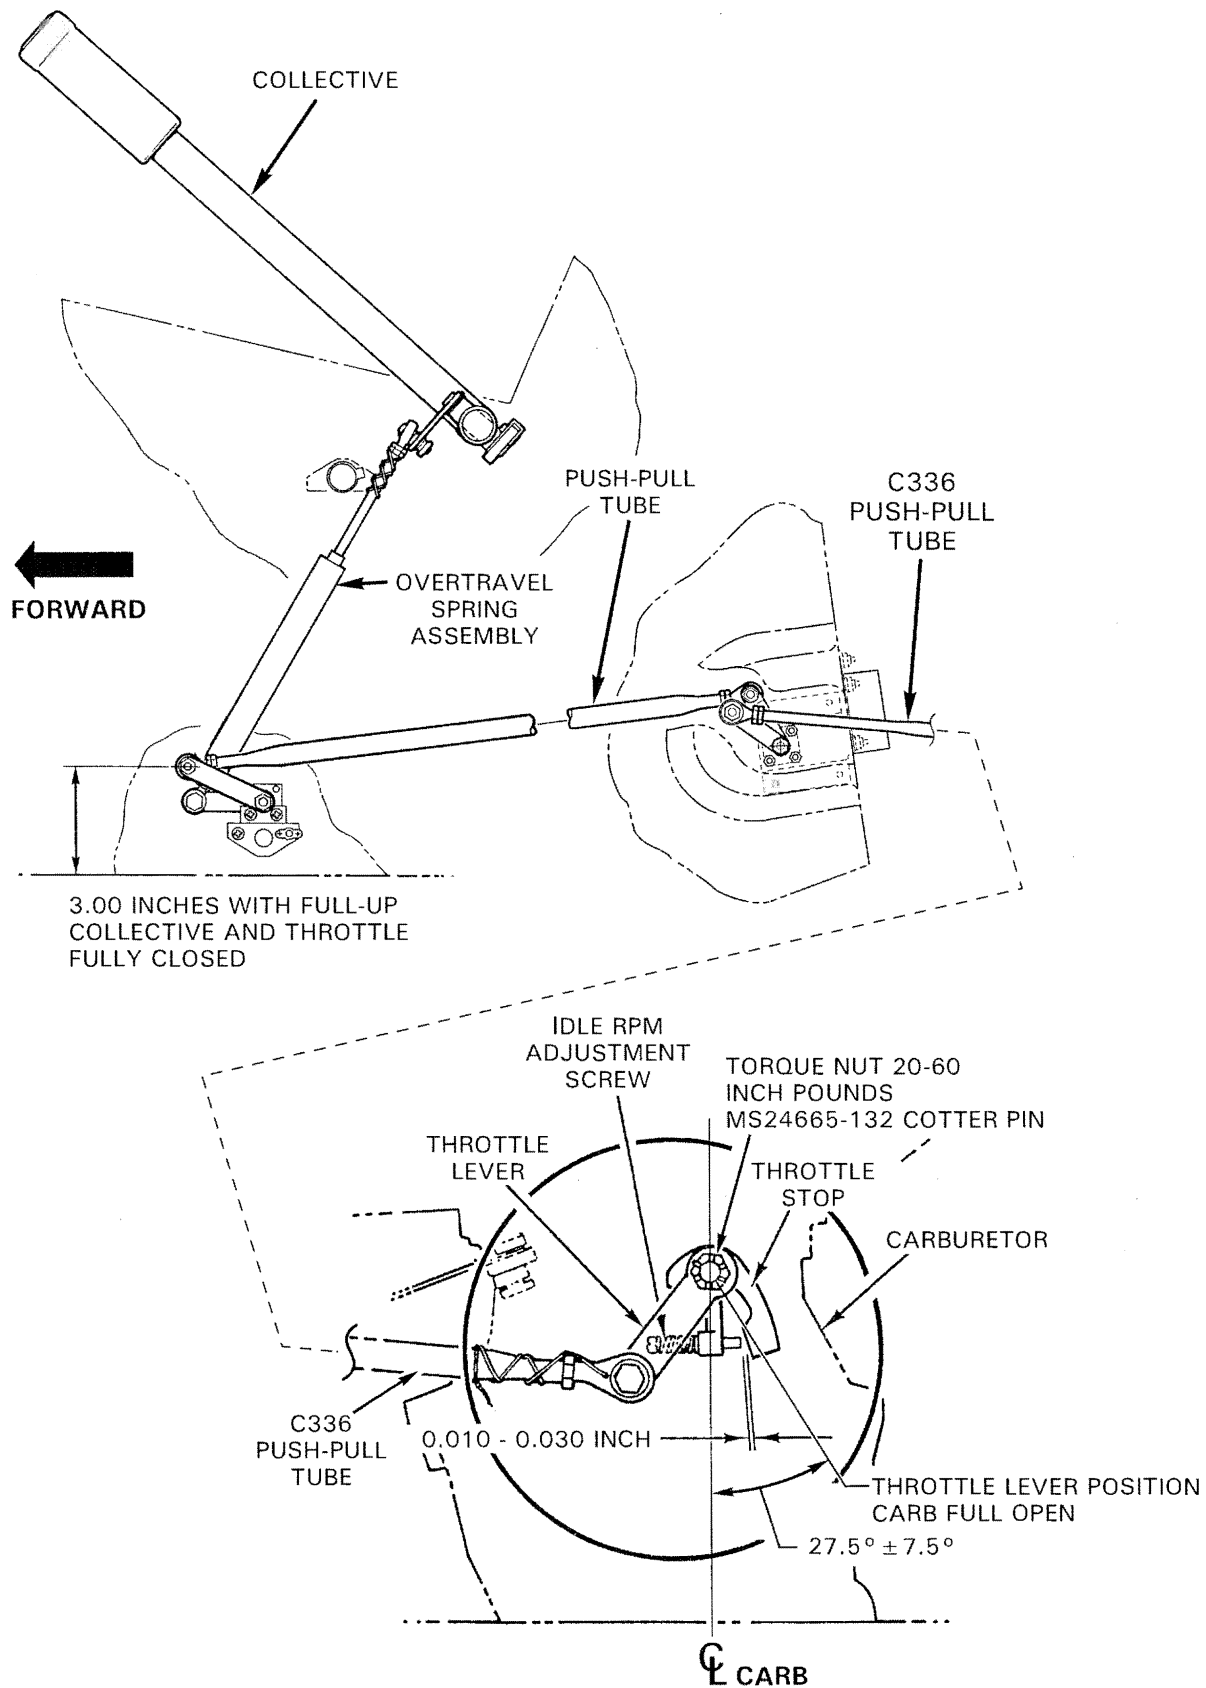

FIGURE 10-8 THROTTLE CORRELATION RIGGING (CARBURETED SHIPS)
10.150 Throttle Correlation Rigging (see Figure 10-8)